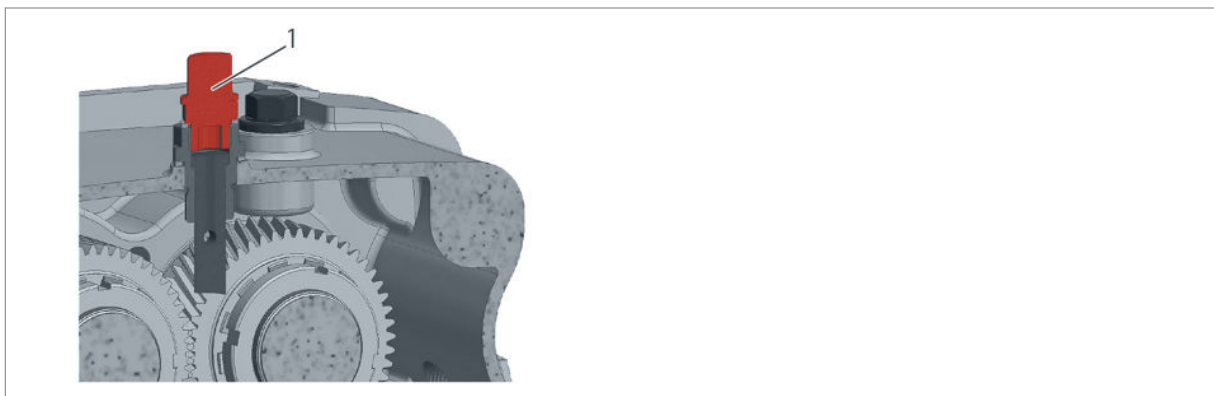

Fig. 10: Ventilation filter on the bearing casing
1. ➔ Remove the blind plug and replace the ventilation filter (Fig. 10) on the bearing casing.